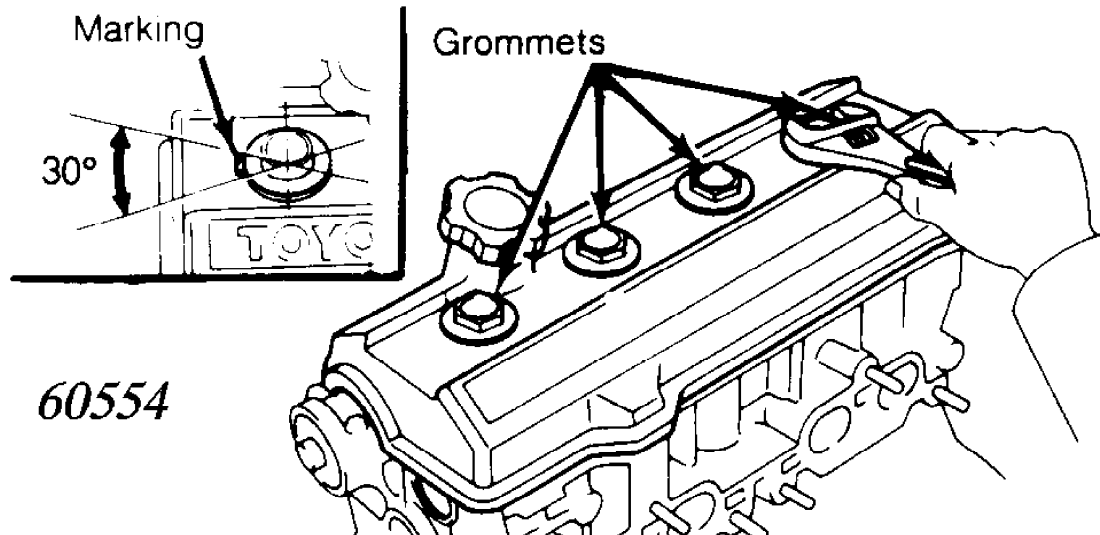

Fig. 21: Head Cover Grommet Installation
7) Install and tighten head cover with 4 grommets and nuts. Ensure grommets are installed so markings are properly positioned. See Fig. 21.